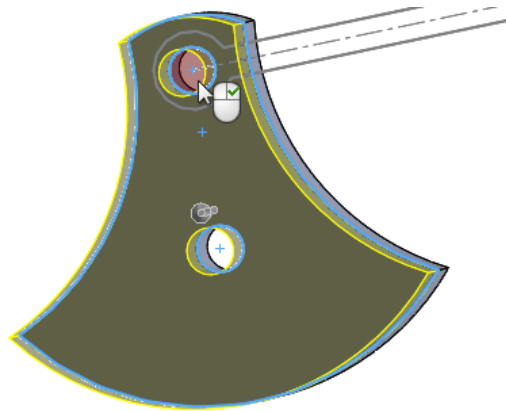

Figure 2-36 Hole of the crank to be selected
- Expand the **Selected Contours** rollout in this PropertyManager. Move the cursor toward the upper hole of the **Crank** and then select it when it highlights in a different color, as shown in Figure 2-36.